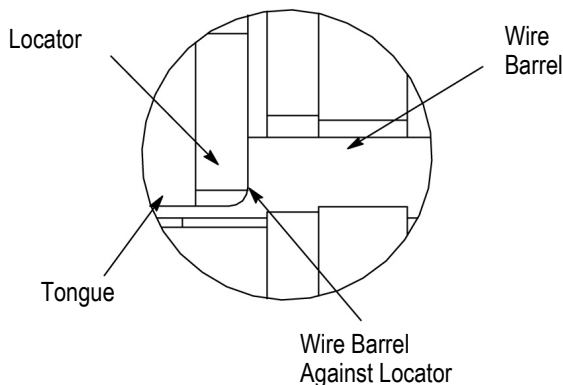

Figure 4
3. Then position the terminal between the crimping dies (Figure 4). The terminal is properly positioned when the tongue of the terminal is under the locator and the wire barrel is against the locator,